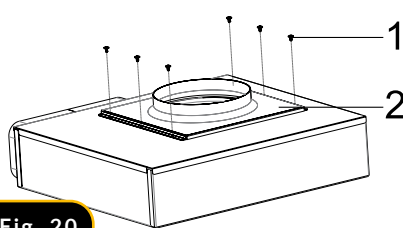

Fig. 20
8. Remove the motor box package. Remove the 6 flue ingress plate connection screw and remove the flue ingress plate (Fig. 20).